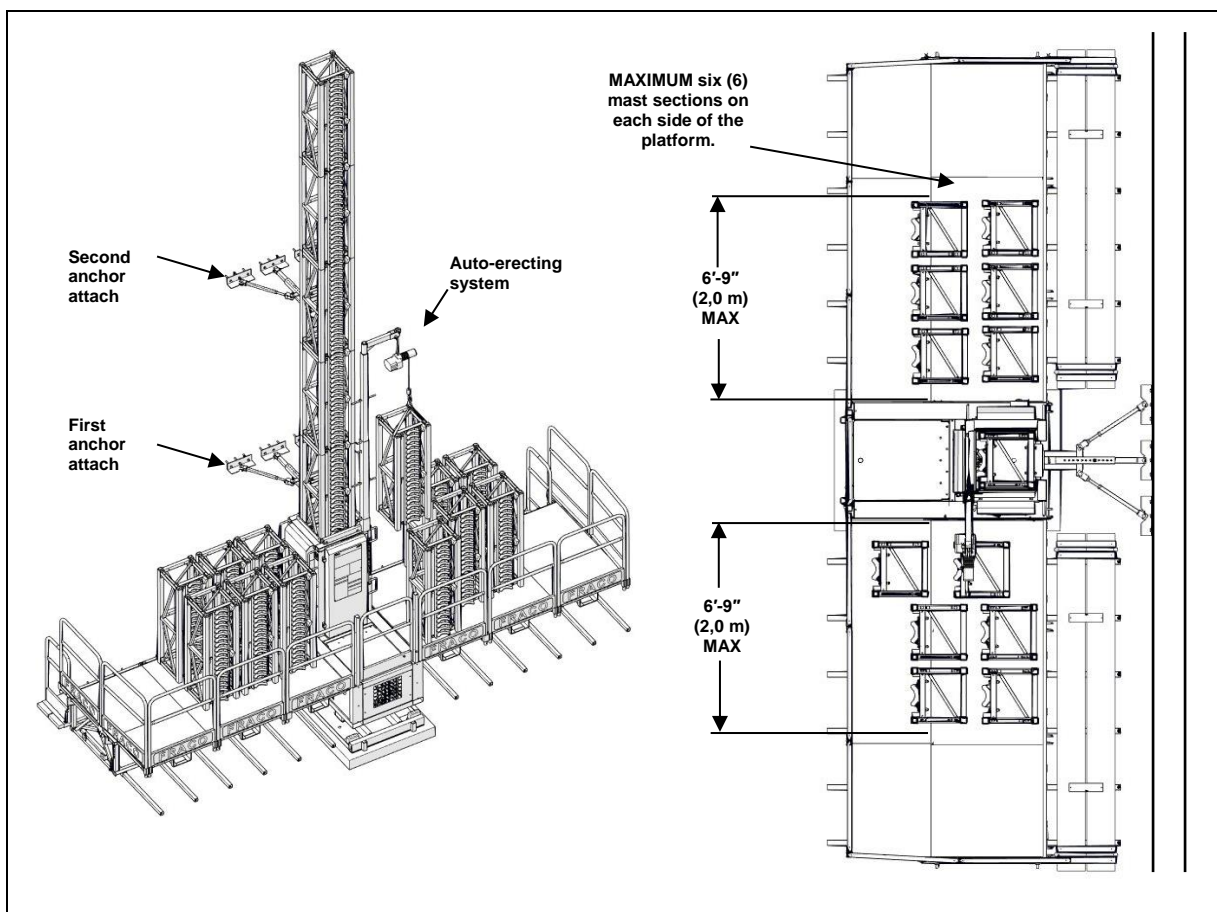

Figure 74 - Installation of masts and anchors on a ground base, self-erecting (optional)
- If you are using a self-erecting system (**optional - self-erecting system**), go to **Step 4**, (See Figure 74).
- Then install the self-erecting system and load up to six (6) mast sections on each side of the platform (twelve [12] sections per platform). Attention, it is important to always equally load the platform on both sides as shown in the Figure 74.
- Load up to **MAXIMUM** six (6) mast sections on each side of the platform. Attention, it is important to always equally load the platform on both sides.
- Unbolt and remove the mast sections using the self-erecting system following the same instructions as for the installation (see Figure 74). Load equally on each side of the platform up to **MAXIMUM** six (6) mast sections at a time (twelve [12] sections per platform **MAXIMUM**).